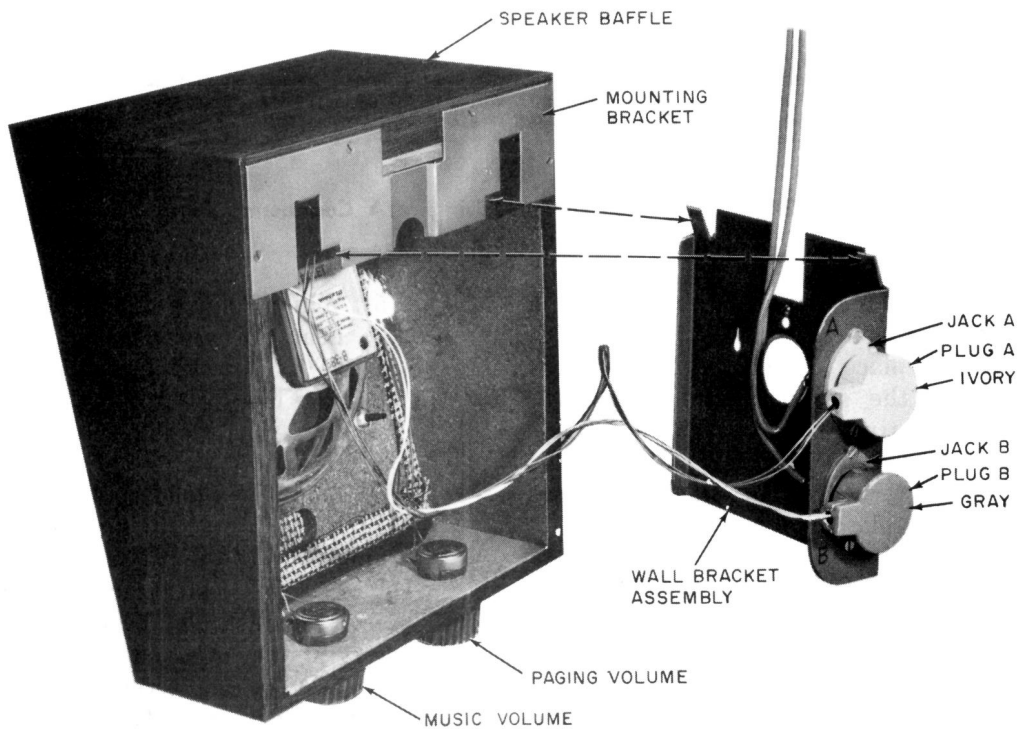

Fig. 26—109A Loudspeaker Set (Early Model)
- (1) Attach the wall bracket assembly of each loudspeaker directly to a suitable wall surface or device box (Fig. 26).